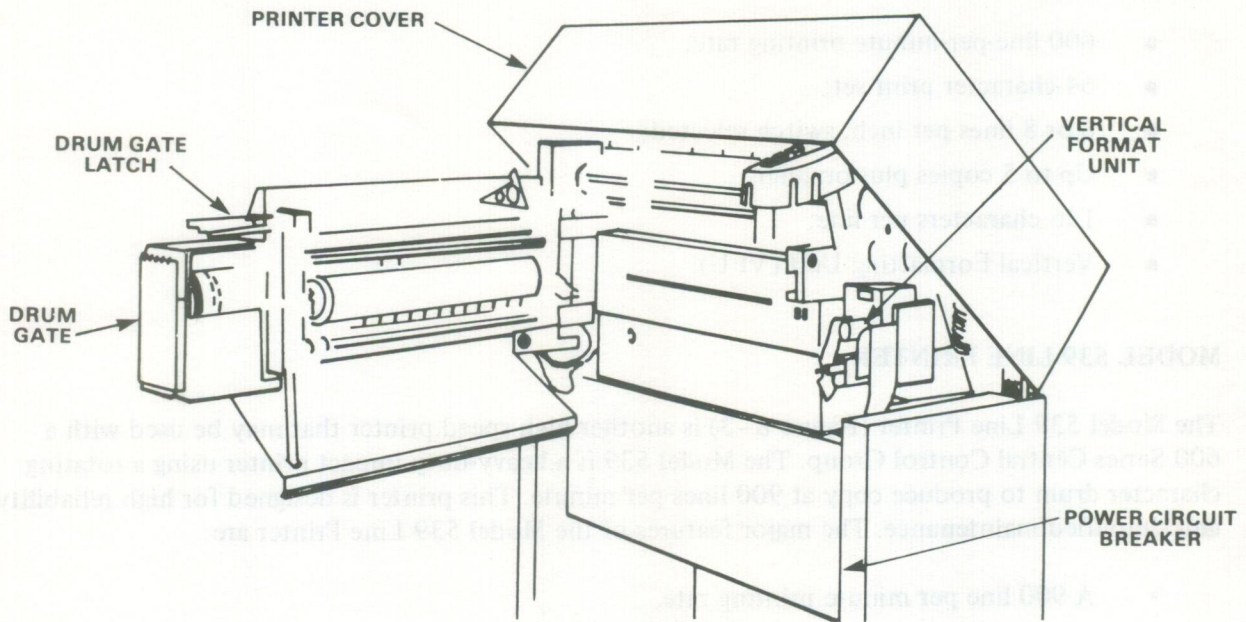

Figure 8-9. Model 533/536/539 Line Printer (Cabinet Open)
The printer mechanism consists of two subassemblies: a stationary mainframe and a drum gate which holds the print drum and ribbon. The drum gate pivots away from the mainframe to allow paper loading or ribbon changing. Figure 8-9 illustrates the printer with cover and drum gate open.
POWER	Applies primary power to the printer and breaks circuit in case of excessive current (see Figure 8-9).
2. Lift the printer cover, pull the drum gate latch forward, and swing it to the fully open position (Figure 8-9). *Ensure that the print drum has stopped rotating before proceeding.*